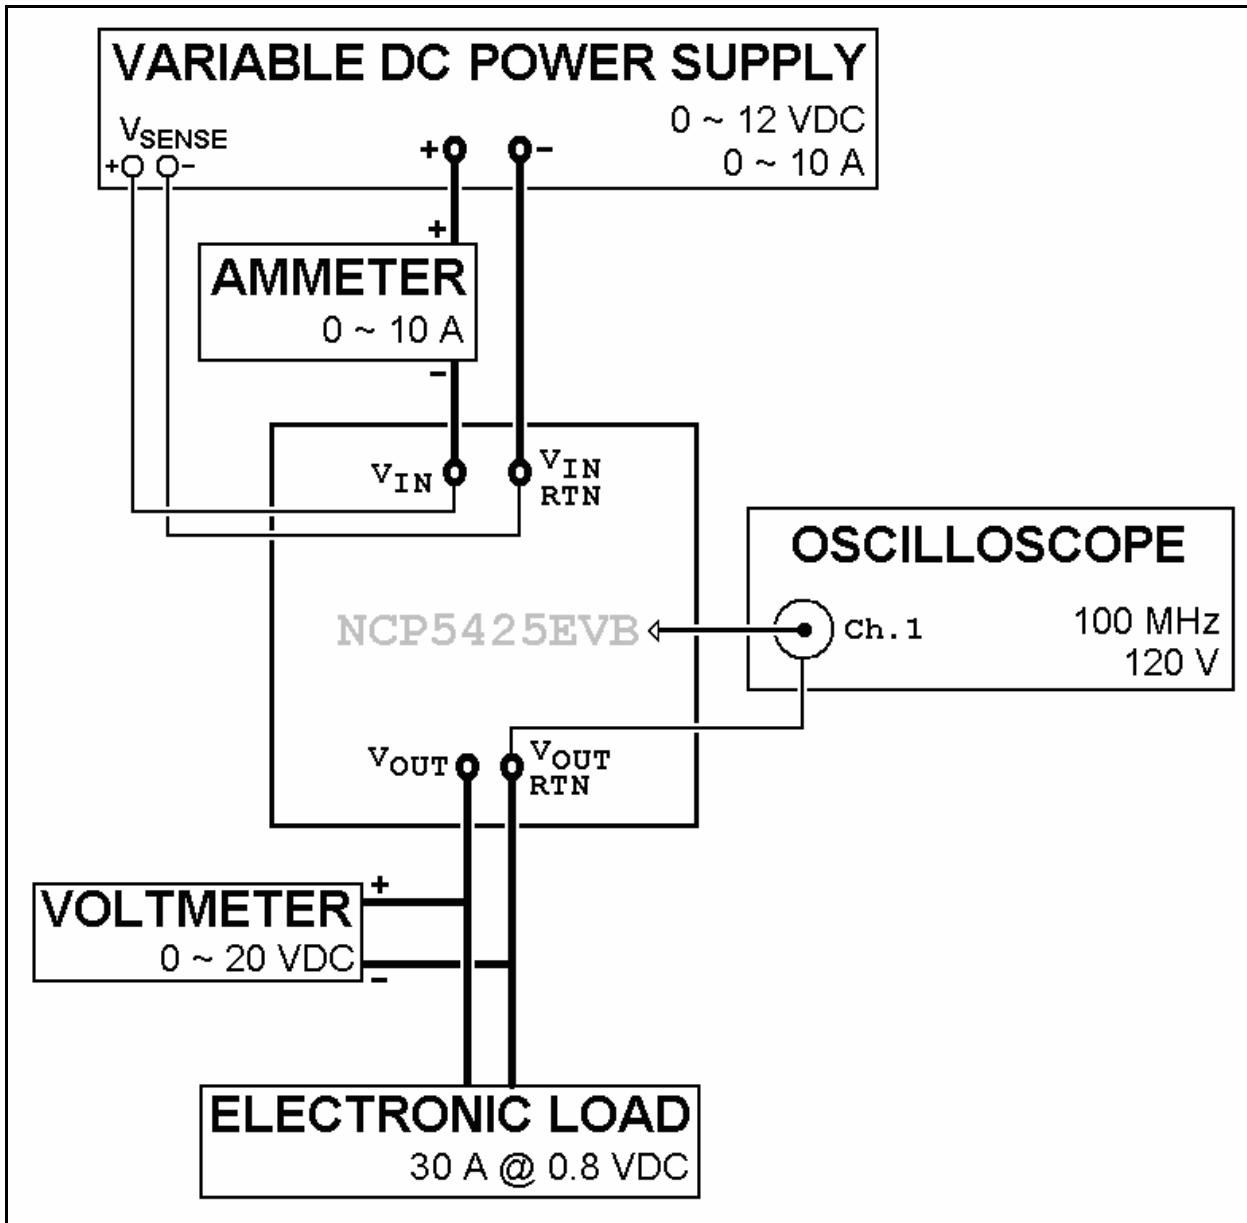

Figure 1. NCP5425EVB Single Output Test Configuration.
- 3.1** Configure equipment as shown in Figure 1.